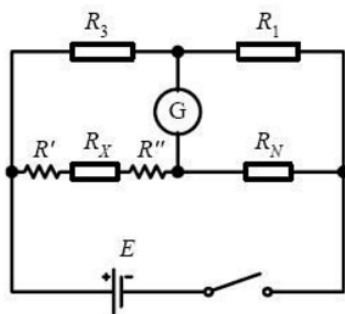

Fig.2: The effect of additional resistance on Wheatstone Single Bridge
**Special contradiction in testing low resistance with Wheatstone bridge:** The Wheatstone Bridge (single bridge) measures resistors, and its value is generally above 10  $\Omega$ . If a single bridge is used to measure low resistance, the additional resistances  $R'$  and  $R''$  (lead resistor and terminal contact resistor, etc.) and  $R_X$  are directly connected in series (Figure 2), and the values of  $R'$  and  $R''$  are equivalent to that of the measured resistor  $R_X$  and cannot be ignored. The resistance  $R_N$  is also a small resistor. Therefore, the formula  $R_X = R_1 \times R_N / R_2$  for measuring resistance using a single bridge cannot accurately determine the value of  $R_X$ .